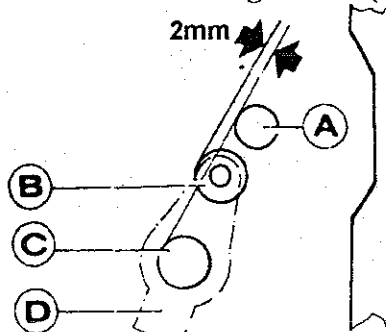

Fig. 32
Note: figure 32 shows the standard position of Cam Driving Crank (D) before operation.